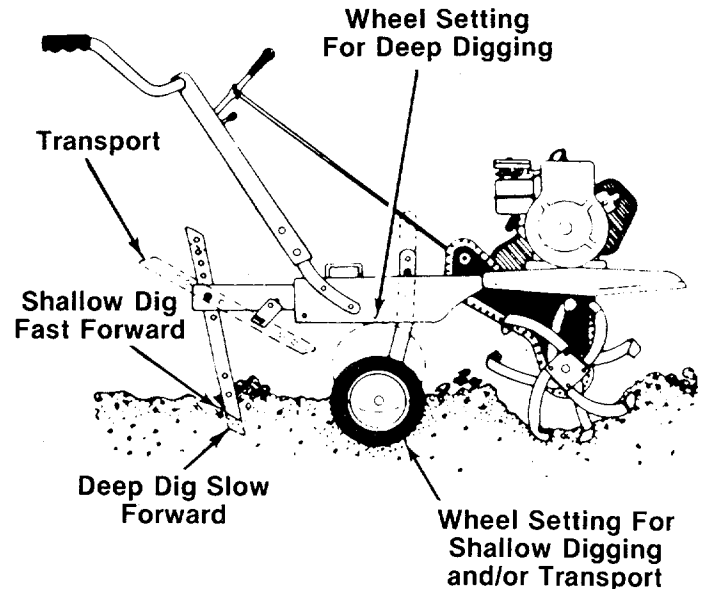

FIGURE 21.
2. **Depth Bar Adjustment:** The depth bar acts as a brake for the tiller and controls the depth and speed at which the machine will operate. See figure 21. Remove the clevis pin and hairpin cotter to raise or lower depth bar.